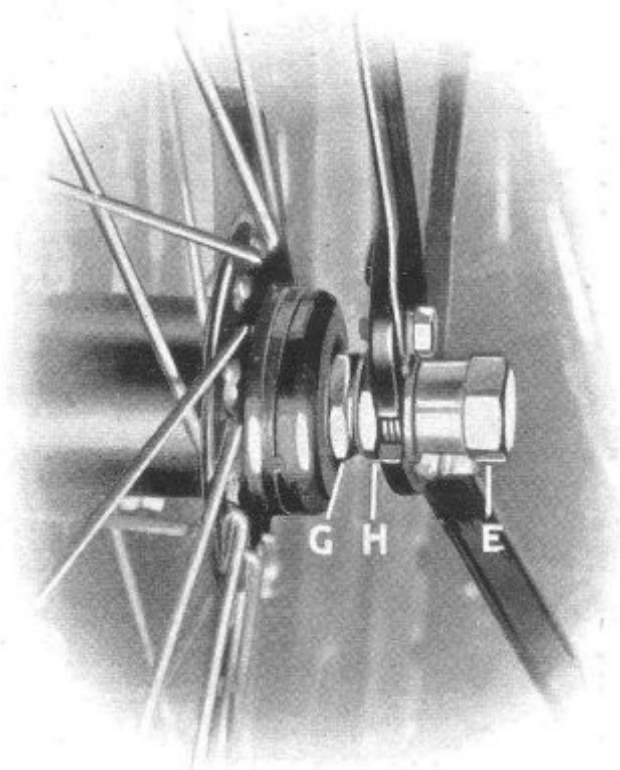

Fig. E1. Wheel Bearing Adjustment.
5. Wheel Bearing Adjustment (See Fig. E1).
Screw off the two thin adjusting and locking nuts (G and H, Fig. E1) and tap out the spindle towards the brake drum side. Prise off the two dirt excluding covers ; these will probably be damaged and therefore require replacement. The inner races, rollers and cages of the taper roller bearings will drop out complete.
4. Wheel Bearing Adjustment (See Fig. E1).